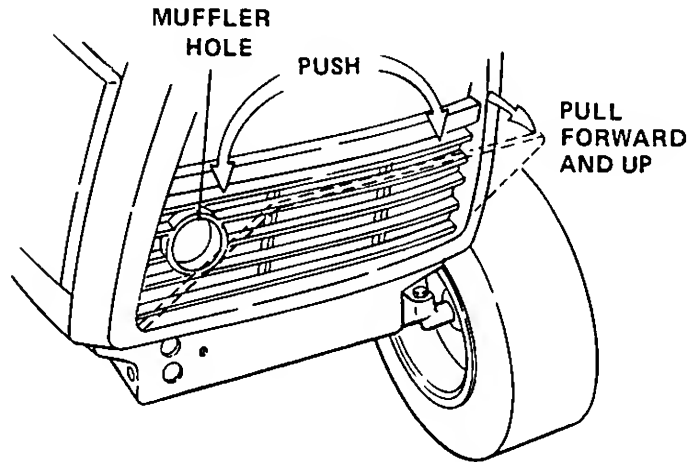

Figure 19
9. Make certain that the backside of the grille insert is clean and unobstructed. Push down on the top of the grille insert and pull forward as shown in Figure 19. Lift the grille insert up removing the tabs from the bottom of the grille housing. Remove by hand any accumulated grass and debris.